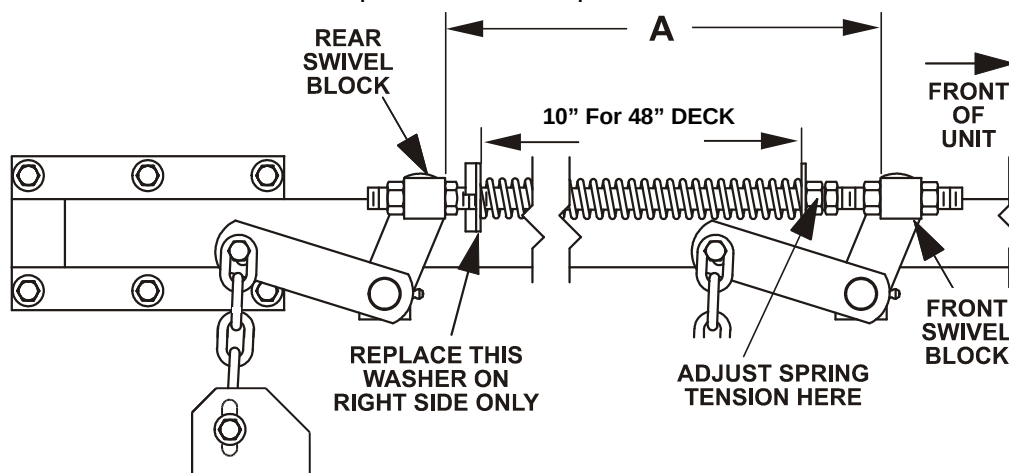

FIGURE 3
- d) Measure the distance between the front and rear swivel blocks on the right side deck lift mechanism. Dimension A in Figure 3. Write this measurement down for use during re-assembly.
- f) Set the deck lift handle to the 4.5" height position (also transport position) and remove all force from the right side deck lift spring by loosening the nuts at the front of the spring. See Fig. 3.
- g) The supplied oversized 2.25" outside diameter (O.D.) flat washer (Item 21) must replace the existing flat washer on the right side deck lift spring at the slotted bracket to the rear of the spring (as shown in Fig. 3). This will keep the discharge chute from entering the slot at the deck's lowest positions when chute is in raised position for transport.
- k) Set the deck lift lever to the 4.5" cutting height position (also transport position). Adjust the spring tension until proper distance is obtained between the two washers (See Fig 3) by turning the nut at the front of the spring. Lock the nut in position with the jam nut.